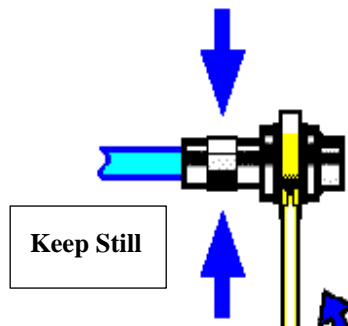

Figure 3.6 Finishing the connection with a torque wrench
Step3. As shown in Figure 3.6, tighten the connectors with a torque wrench to complete the connection. Pay attention that the torque wrench should not exceed the initial folding point. Use an auxiliary wrench to prevent the connector from rotating.